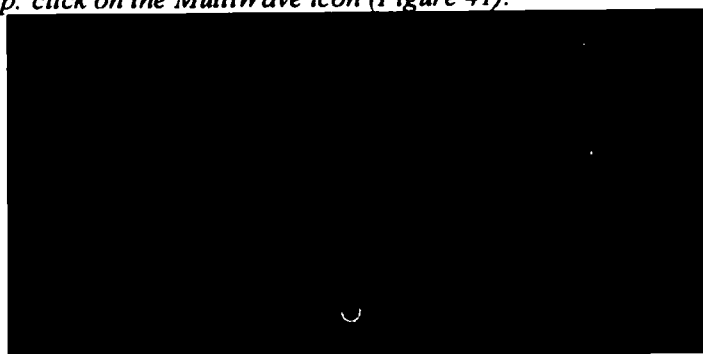

Figure 41. The startup of MultiWave mode.
14.1. System startup: click on the MultiWave icon (Figure 41).